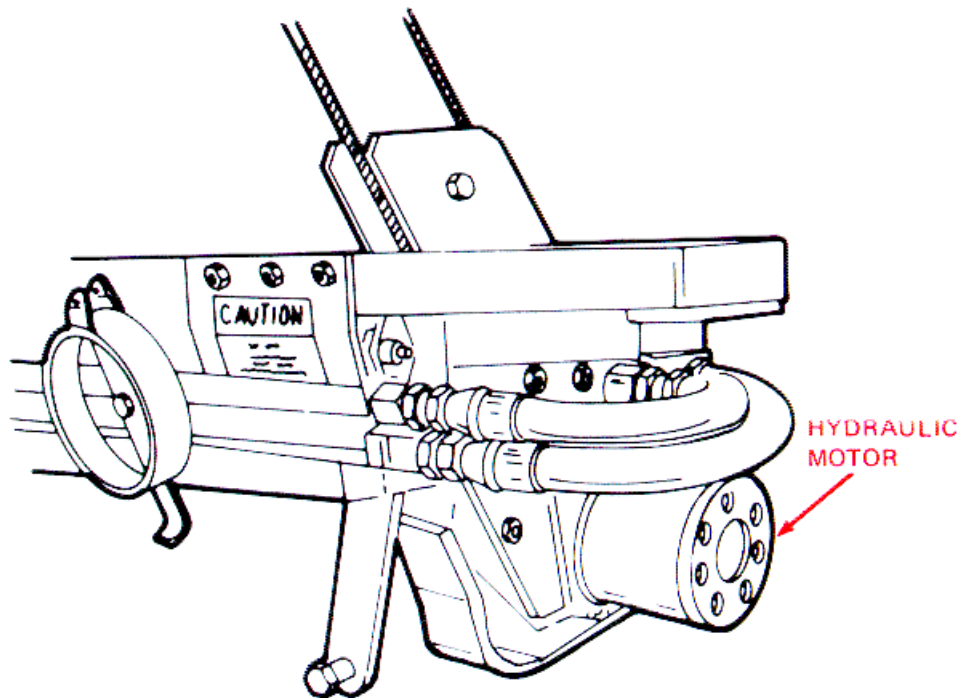

Figure 3-31. Check Auger Shaft
- b. Closely watch the hydraulic motor (fig. 3-31).